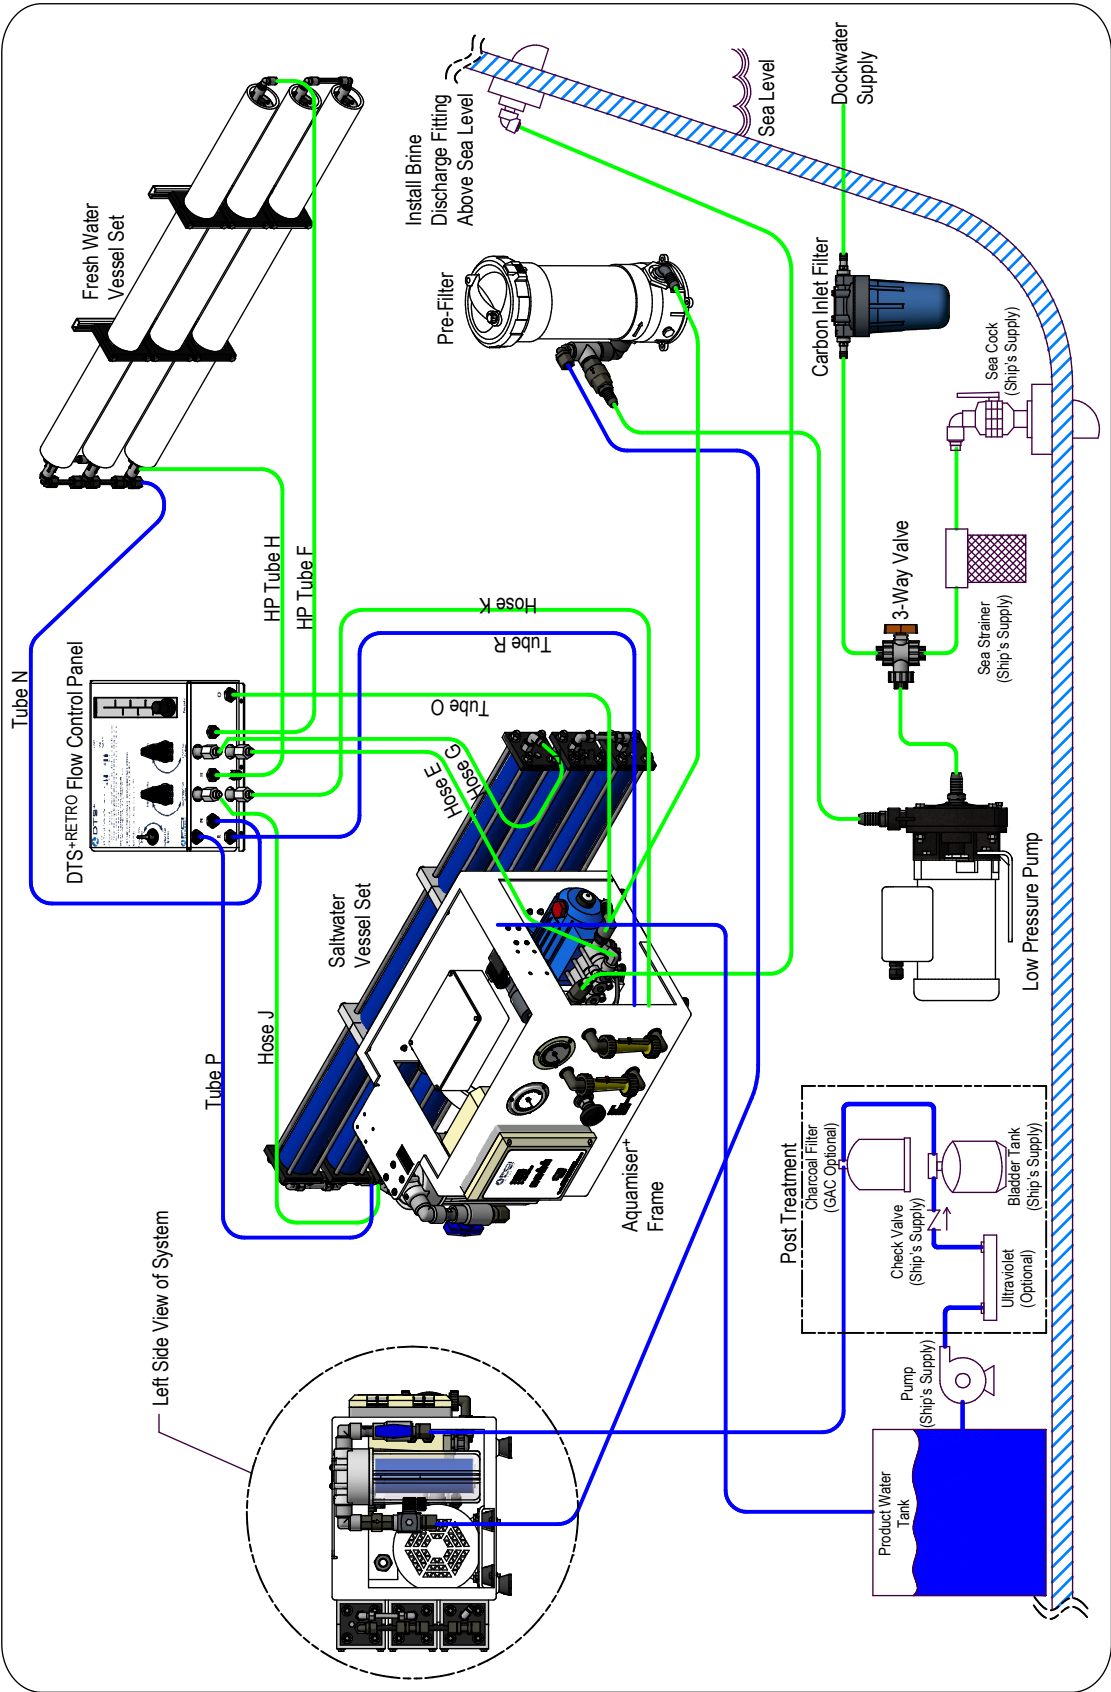

Figure 15: Aquamiser+ Frame 1,800 GPD with DTS+RETRO
- "Figure 15: Aquamiser+ Frame 1,800 GPD with DTS+RETRO" on page 37